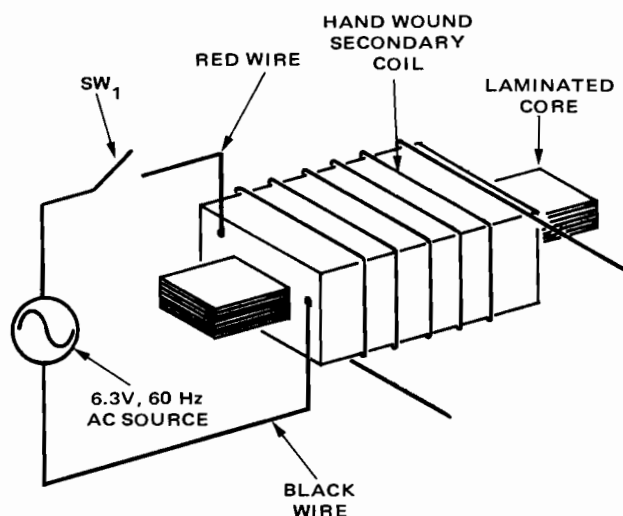

Fig. 9-4-1
1. Connect coil No. 1 of transformer assembly unit to 6.3 V ac source as indicated in Fig. 9-4-1. Slide laminated core piece into coil.